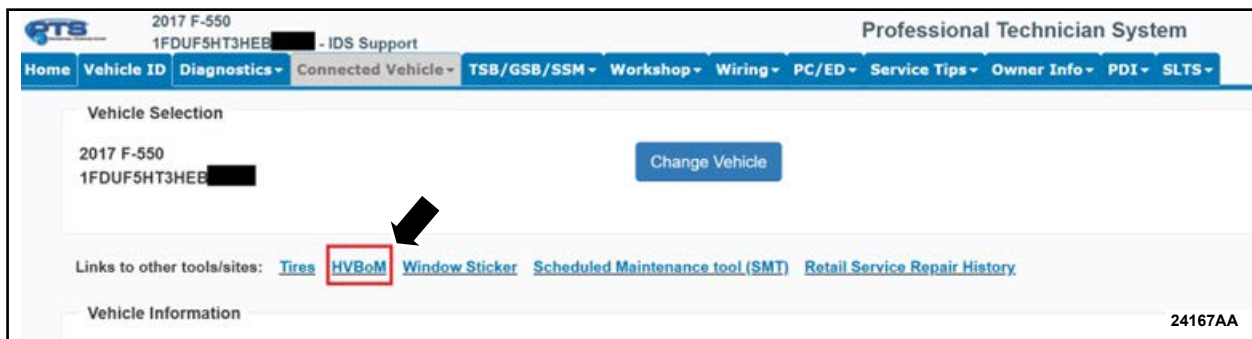

FIGURE 10
1. Click on HVBoM link in the PTS. See Figure 10.